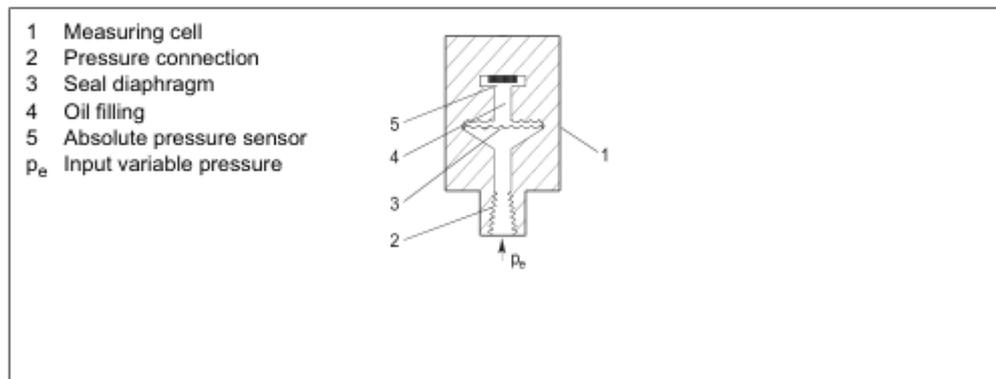

Figure 10 Measuring cell for absolute pressure from pressure series, functional diagram
The pressure is transmitted via the seal diaphragm (3, Figure 10, pg. 20) and the filling liquid (4) to the absolute pressure sensor (5) and flexes its measuring diaphragm. Four piezo-resistors in bridge circuit doped in the measuring diaphragm change their resistance as a result. The change in resistance causes a bridge output voltage proportional to the input pressure.